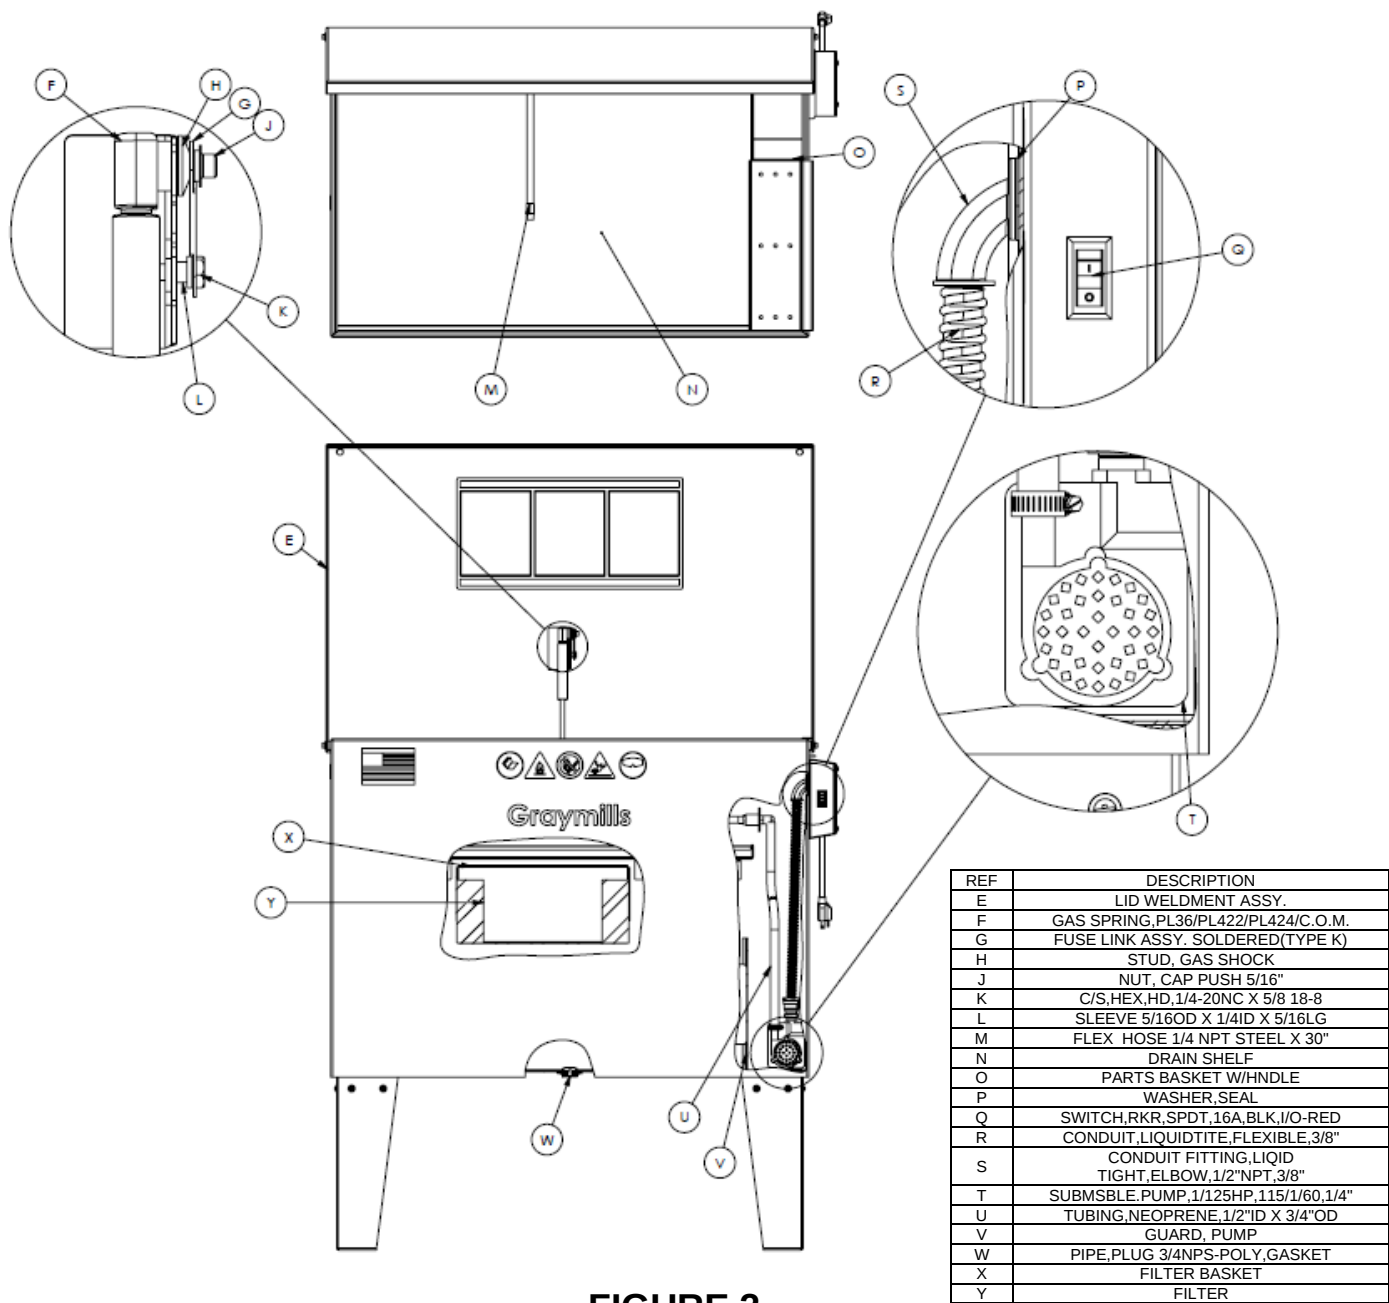

FIGURE 2
Open the automatic Safety Cover (FIGURE 2(E)) on your Handi-Kleen and you will notice that it lifts simply and easily with one hand. There is nothing to connect or disconnect to open or close the cover.
Your Handi-Kleen cover is equipped with a two-way gas spring (FIGURE 2(F)) that also incorporates a fusible link (FIGURE 2 (G)). When open, the cover mechanism supports the cover at a slightly forward angle. This angle is necessary to assure the cover's fusible link will operate in the unlikely event of fire in the tank. In the event of a fire, the fusible link will melt at 165°F permitting the lid to slam shut, reducing oxygen supply to the fire.
The filter basket (FIGURE 2(X)) hooks to the back of the tank, underneath the work shelf and is easily removed for cleaning. Solvent flows from the metal flush hose (FIGURE 2(M)) onto the work shelf (FIGURE 2(N)) and drains through slots in the back of the work shelf into the filter basket located at the middle rear of the tank. Heavy soils will drop to the bottom of the rectangular container. Solvent will then flow through the filter pad (FIGURE 2(Y)) and back into the tank. Keeping the filter basket clean will prolong solvent life.
The pump (FIGURE 2(T)) is a valuable aid in parts cleaning. It is particularly useful for flushing away softened grease and grime as you brush the parts. The pumps designed for the Handi-Kleen models operate at low pressure to aid against splash. These pumps are made of high strength, reinforced thermoplastic. The pump screen which protects the pump intake may need periodic cleaning.
- Remove the flexible hose(M) from the "L" support bracket, aim it over the tank sides into a proper container and remove all but the last 1" of solvent using the pump.
- Open the drain (FIGURE 2(W)) located in the center of the tank bottom to allow the remaining sludge to drain into a dirty pail.
Decreased solvent flow from the nozzle could mean not enough solvent is getting to the pump, indicating a sludge build-up at the pump intake area. Clean pump screen weekly for best operation, more often in heavy use. Lift pump out of compartment and check bottom of pump compartment for sludge. If it is necessary to clean the pump compartment remove the sheet metal guard (FIGURE 2(V)) by bending the edges inward to disengage them from their retaining brackets. The pump has a secondary screen that may need additional cleaning.
The pump electrical cord is protected by a plastic conduit (FIGURE 2(R)). and passes into the electrical box via an elbow fitting (FIGURE 2(S)) that employs a rubber seal (FIGURE 2(P)) to prevent solvent from entering the electrical box. The rubber seal should be replaced any time it is damaged or shows signs of wear.